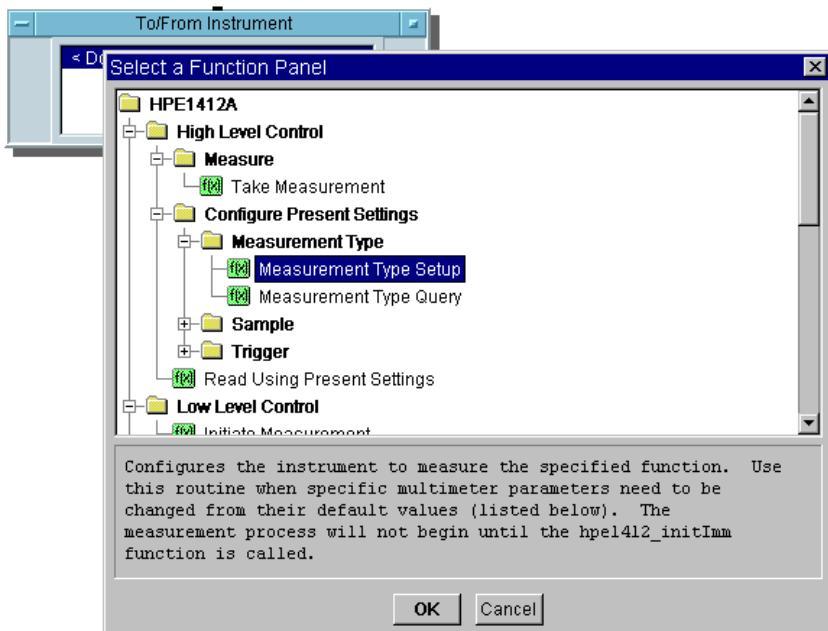
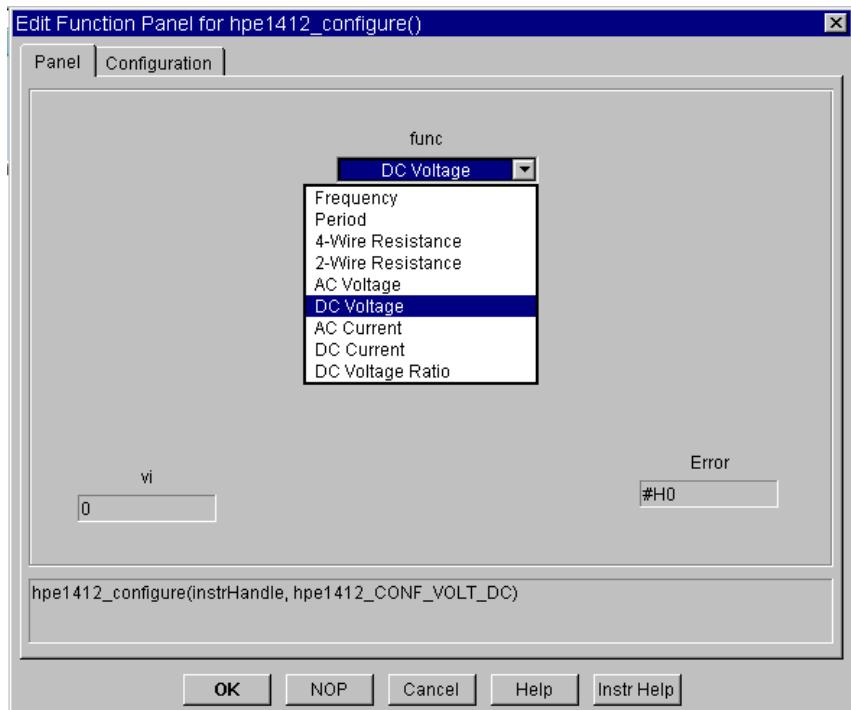

Figure 3-32. Selecting a Function for a VXIplug&play Driver
Figure 3-33. The HPE1412 Edit Function Panel
6. Double-click on the transaction bar labeled <Double-click to Add Function>, and Select a Function Panel is displayed as shown in Figure 3-32. Figure 3-33 shows the hierarchy of functions in the function panel. Notice that Help for the item selected is displayed in the dialog box.
7. Click Configure Present Settings ⇒ Measurement Type ⇒ Measurement Type Setup. The Edit Function Panel is displayed. Under func, click to display the drop-down list. Select the default DC Voltage, as shown in Figure 3-33.